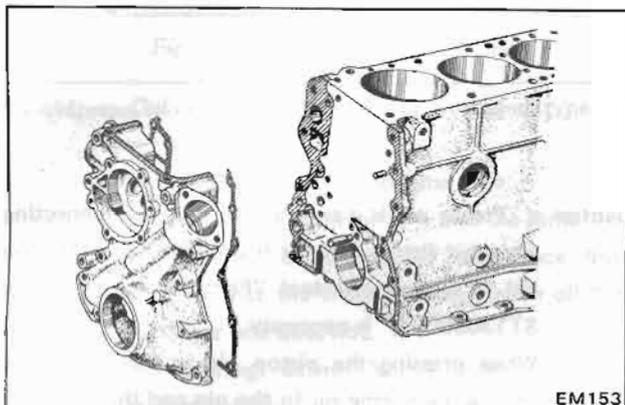

Fig. EM-68 Applying sealant (Front cover and gasket)
- (1) Front cover gasket: Front side of the cylinder block and cover gasket. See Figure EM-68.
- (2) Front cover: Top of the front cover, see Figure EM-68.